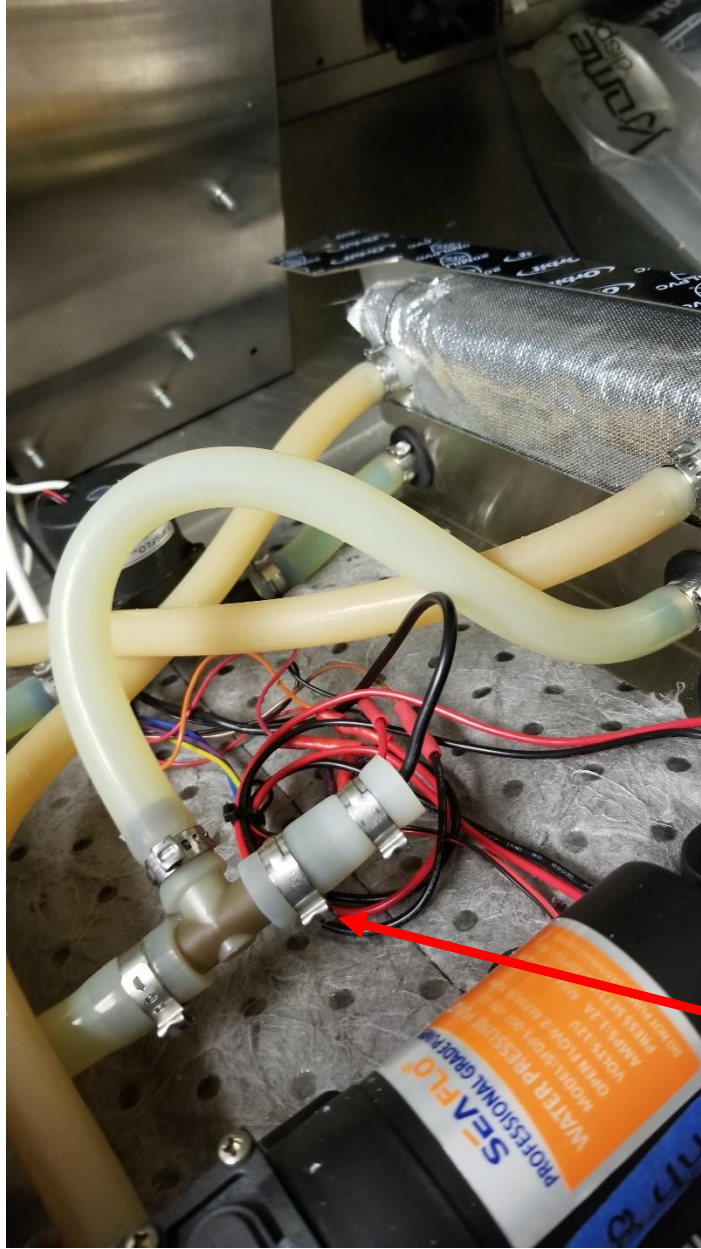

Figure 16
3. Once you think you have all of the trapped air moved to the highest point, loosen the clamp at the Temperature Sensor and remove the sensor from the 3-way T connector. See Figure 16.